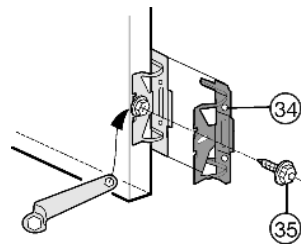

Fig. 13
- ▶ Fasten all mounting brackets *Fig. 13 (34)* with hex head screws *Fig. 13 (35)* to the pre-bored holes in the appliance door.